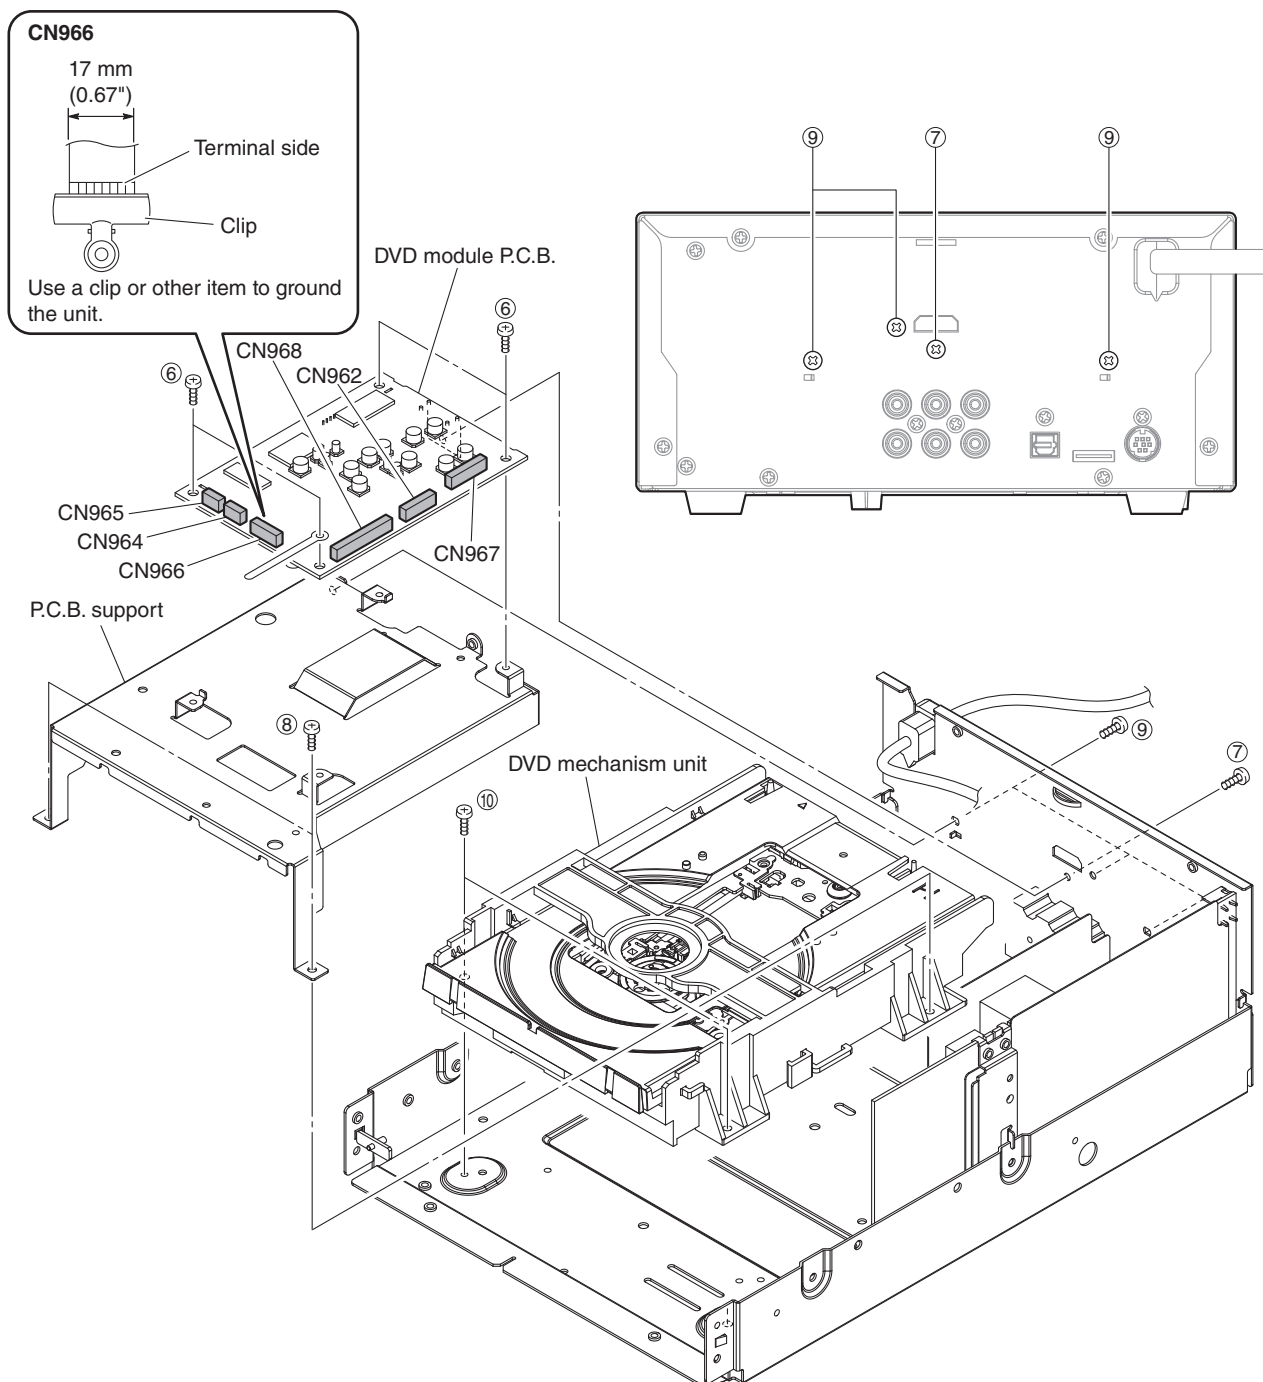

Fig. 2
- Remove screw (⑦). (Fig. 2)
- Remove CN962, CN964–965 and CN967–968. (Fig. 2)
- Unlock and remove CN966 and ground the terminal side of the flexible flat cable with a clip or the like. (Fig. 2)
- Remove the DVD module P.C.B.. (Fig. 2)
- Remove 2 screws (⑧). (Fig. 2)
- Remove 3 screws (⑨). (Fig. 2)
- Remove the P.C.B. support. (Fig. 2)
- Remove 2 screws (⑩). (Fig. 2)
- Remove the DVD mechanism unit. (Fig. 2)